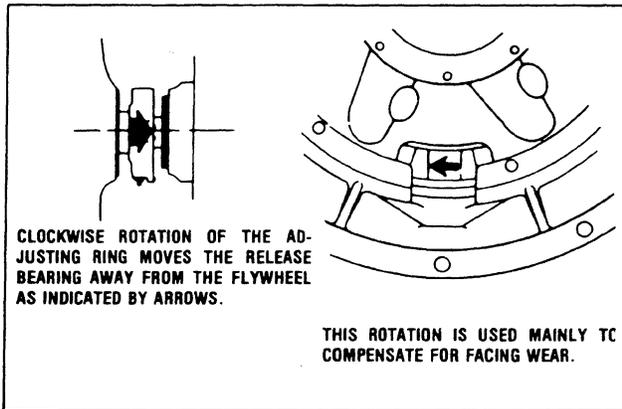
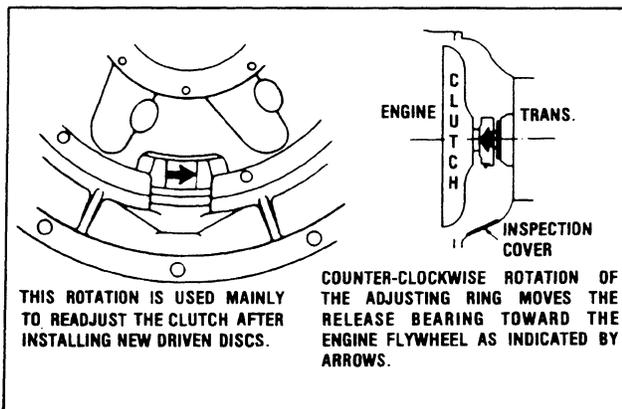

Figure 8:
Figure 9:
NOTE: Turning the adjusting ring "CW" (in) moves the release bearing assembly toward the transmission (Fig. 8). Turning the ring "CCW" (out) moves the bearing away from the transmission (Fig. 9). Moving the ring three (3) notches will change the dimension approximately 1/16 inch. **THE CLUTCH MUST BE "RELEASED" TO TURN THE ADJUSTING RING.** The clutch ring lock strap must be installed before engine operation.